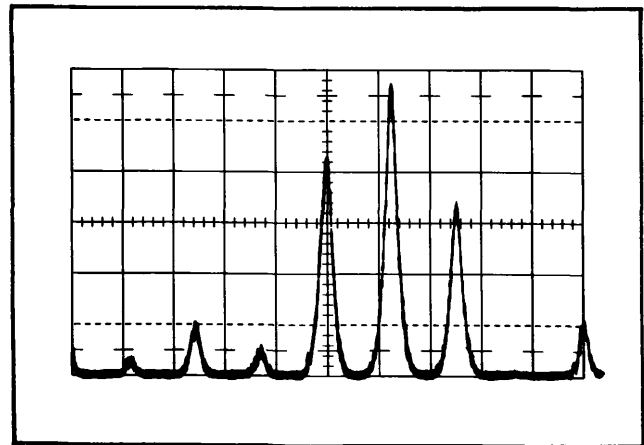

Fig. 4-7. Initial display (step 18) in checking the narrow dispersion settings of the Type 1L10.
18. Set the output frequency of the Type 105 Square-Wave Generator so that the first modulation marker on the left-hand side of the center frequency is at the graticule centerline (see Fig. 4-7).